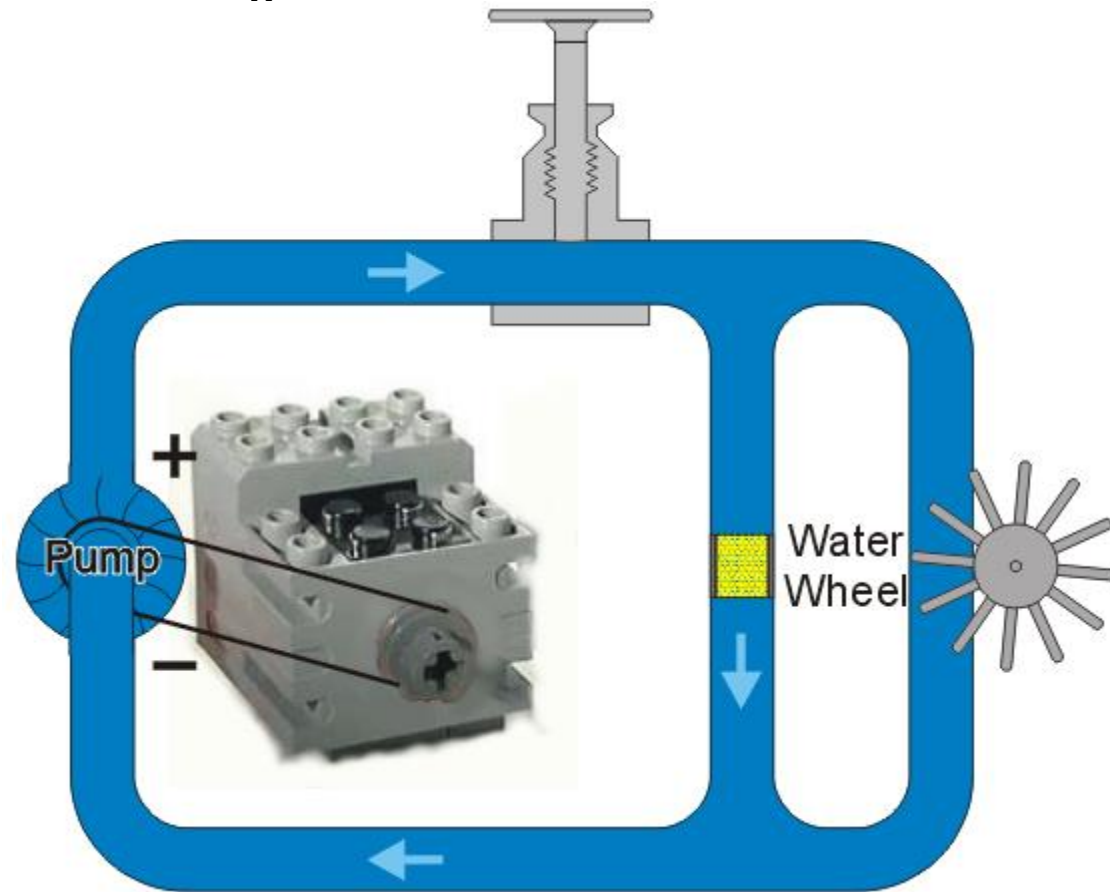

Fig 16: Initially, all flow passes through the sand filter.
- Initially, the inertia of the water wheel prevents any flow in the second pipe and therefore all of the flow is passing through the sand filter, as is shown in **Fig.16**.